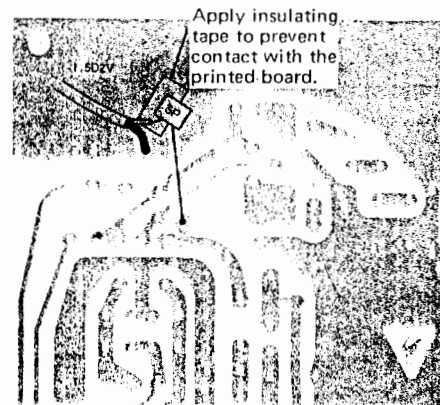

Figure 11
- (1) Locate the IF printed board, PB-1251, and solder the 5 PF capacitor and coax cable as illustrated in Figure 11.
- (2) Install the coax cable as illustrated and solder the other end of the coax cable to AUX connector on rear panel.
- (3) Solder a 100K ohm 1/4 watt resistor between the inner and outer conductor of the coax cable at the AUX connector.
- (4) Peak T119 after the above modification.